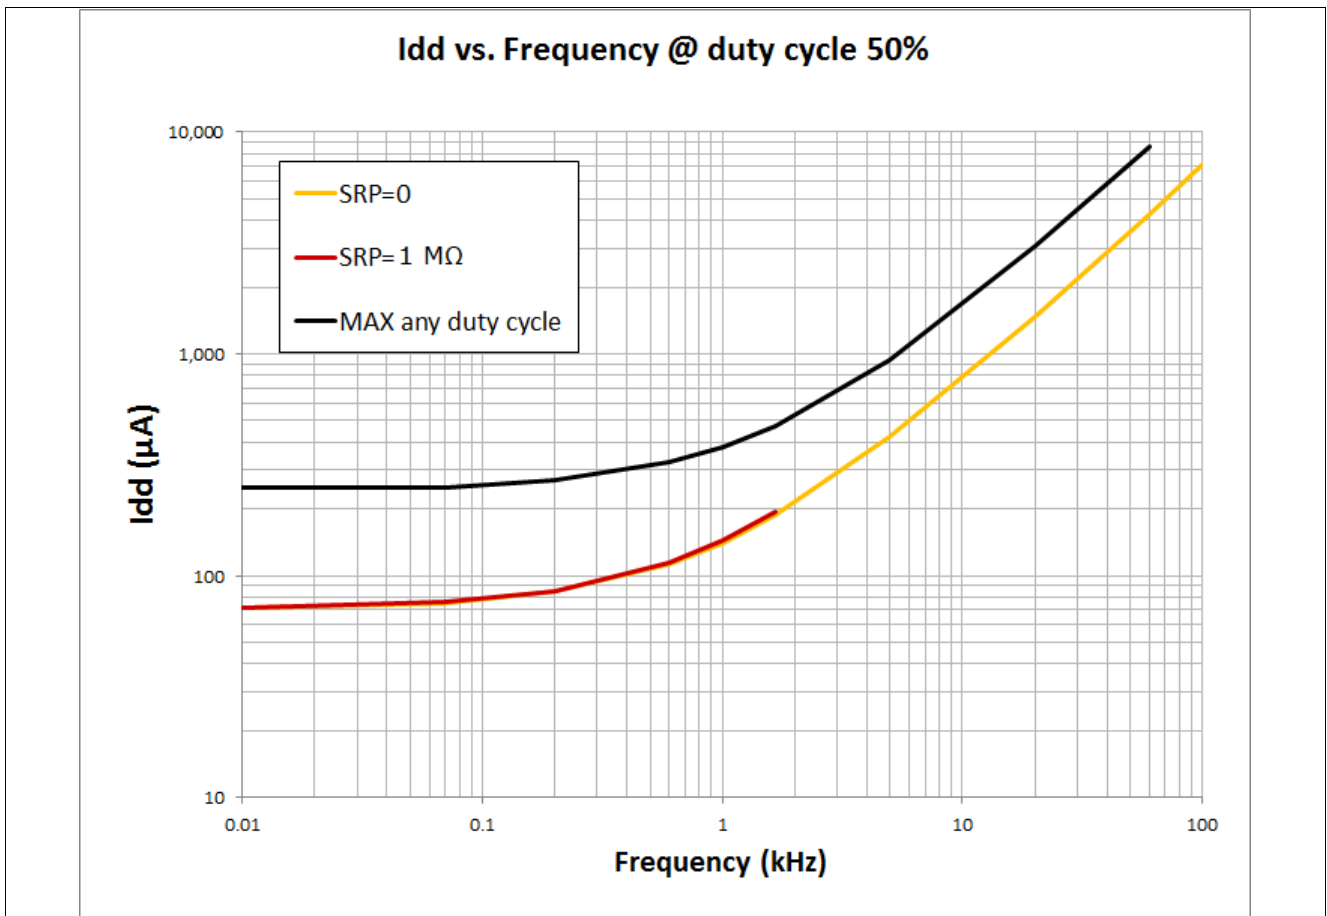

Figure 13 Typical  $I_{DD(PWM)}$  vs switching frequency at 50% duty-cycle
**Figure 13** shows the typical relation between the supply current consumption and the switching frequency considering a duty-cycle of 50%.